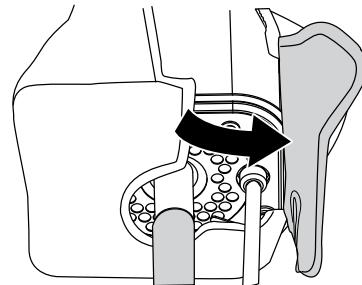

Figure 17. Balloon Cover Removal
2. Detach the velcro from the balloon cover and unzip cover (Figure 17).